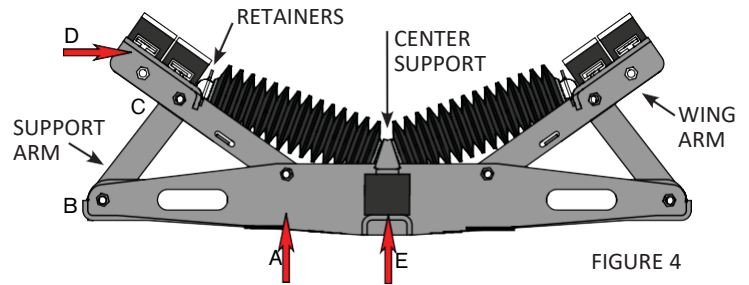

FIGURE 4
2. Loosen the Wing Arm pivot bolts (A in figure 4). Loosen these enough so that the Wing Arm will pivot, do not remove these bolts.
3. Remove the bolts at the foot pad (B in figure 4).
4. Remove the bolts where the Wing Arm and Support Arm meet (C in figure 4). The Wing Arm will remain supported by the Support Arm (BC) even with the bolts removed. If your TIS was supplied with a lift roll kit or kits, the lift roll and bracket will need to be removed.
13. Replace the support arms and insert the bolts and nuts. Do not tighten the bolts and nuts at this point, the Support Arms should be held in place by the lip on the foot pad and the lip on the Wing Arm at B and C in figure 4. To insert the bolts onto the Wing Arm you may need to position yourself slightly lower than the Wing Arm to line up the holes for the bolts.